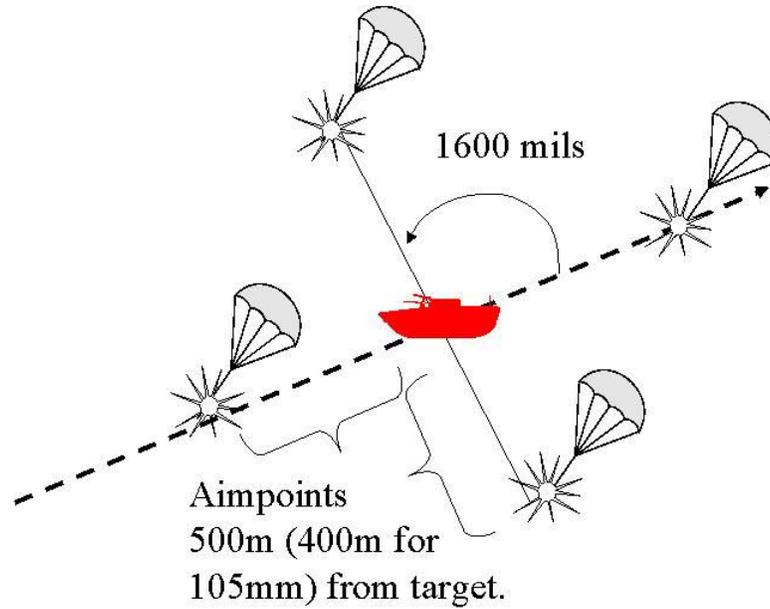

Figure 5-3. Range and lateral spread sheaf.
- 1) If the target is a circle, aimpoints are evenly distributed along the circumference of a circle one half the radius of the target from the target center. (See Figure 5-3.)